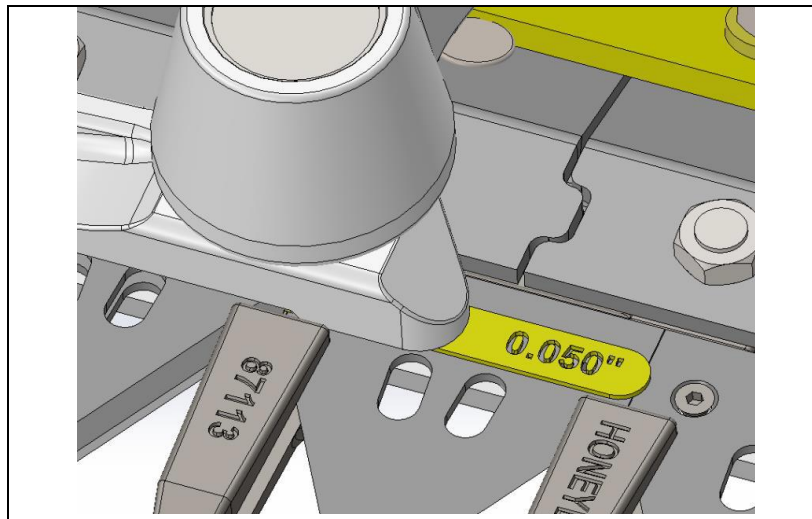

Figure 11: Image showing feeler gauge between both knives
18. Install the RH gooseneck onto the bell crank. Take the 0.050" feeler gauge and place between LH knife and RH knife head. Figure 11.